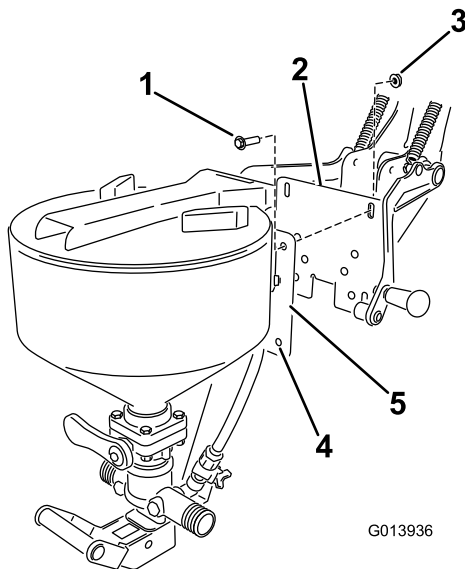

Figure 17
- Align the holes in the eductor assembly mount plate with the slotted holes in the back plate of the cradle assembly (Figure 17). Install four bolts (3/8 x 1 inch), and four lock nuts (3/8 inch) to mount the eductor. Do not tighten at this time.